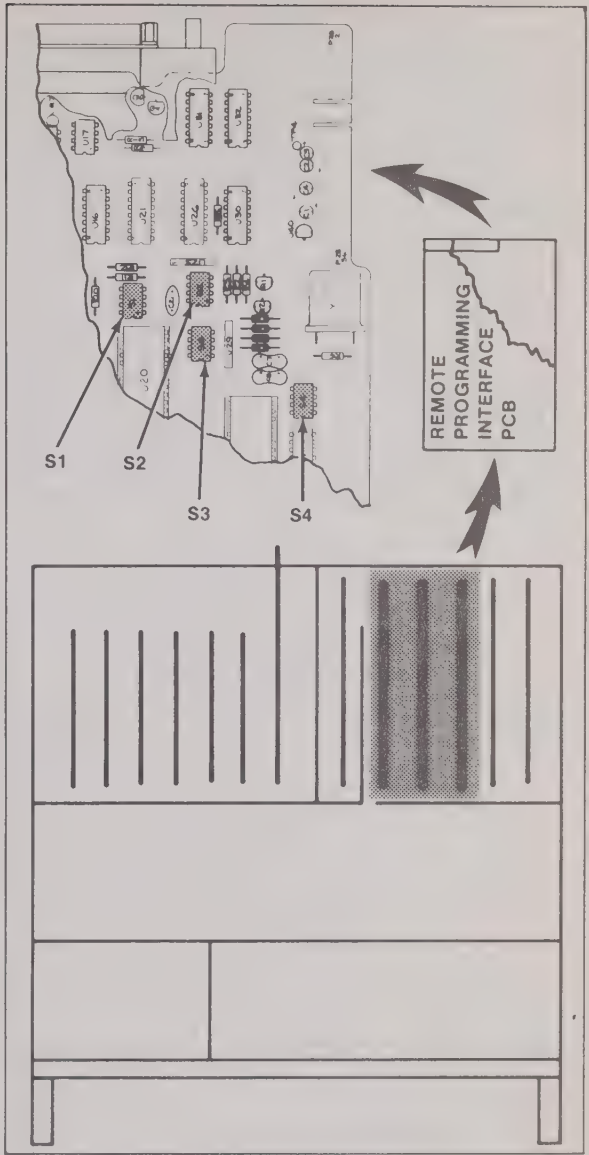

Figure 617-2. Remote Programming Interface PCB, Installation and Switch Locations
617-15. The Remote Programming PCB Assembly can be installed in any one of the data logger I/O slots shown in Figure 617-2. use the following procedure to install the pcb:
- Locate S3 on the pcb as shown in Figure 617-2. This switch is used to establish the format of transmitted data.
- Locate S4 on the pcb as shown in Figure 617-2. This switch is used to establish the baud rate of both transmitted and received data.
- Locate S2 on the pcb as shown in Figure 617-2. S2 is used to assign a unique address code to the pcb. This code allows the pcb to ignore all command (data) strings that are not preceded by the code.
- Locate S1 on the pcb as shown in Figure 617-2.